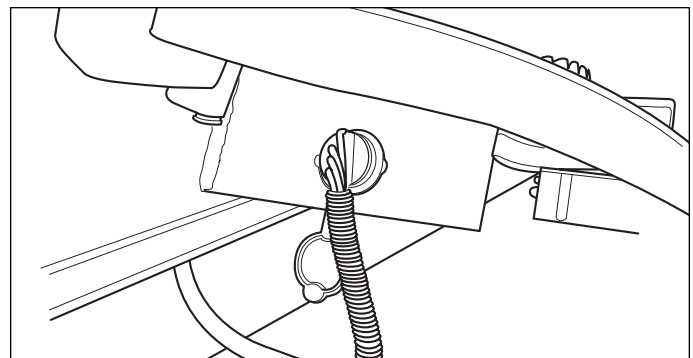

Figure 22. Attachment Electrical Connection
10. See Figure 22. Attach the electric chute rotator to the tractor attachment plug.
3. See Figure 22. Disconnect the attachment electrical connection.